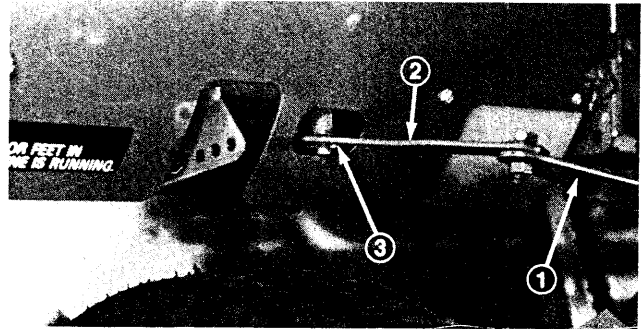

Figure 9
4. Firmly grasp support arms, push arm down, slip transport links over link pins and secure with cotter pins (Fig. 9).